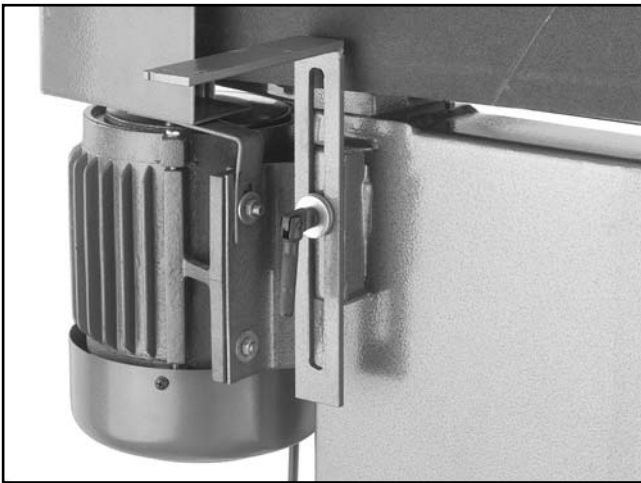

Figure 15. Rear L supports installed.
5. Install the L supports with the lock handles and remaining four $\frac{3}{8}$ " flat washers as shown in **Figure 15**. The smallest L support at the rear of the machine should be closest to the motor.